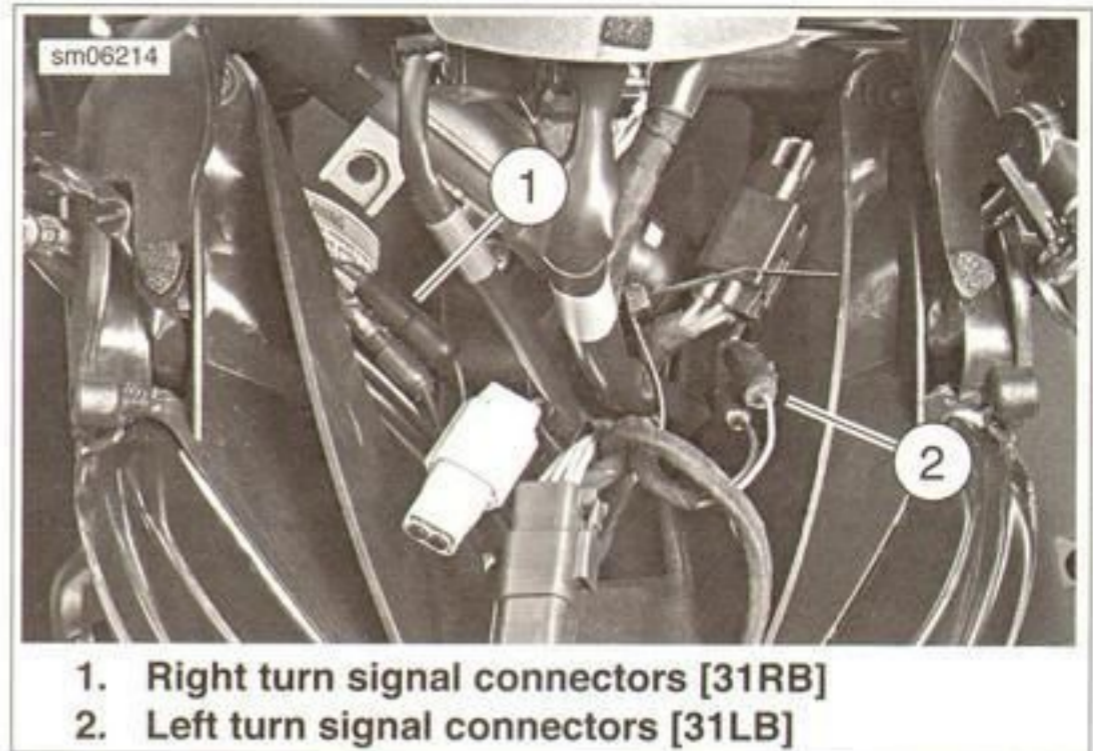

Figure 7-44. Turn Signal Barrel Connectors: 1125CR
2. See Figure 7-44. Separate the right pair [31RB] (1) and the left pair [31LB] (2) turn signal barrel connectors.